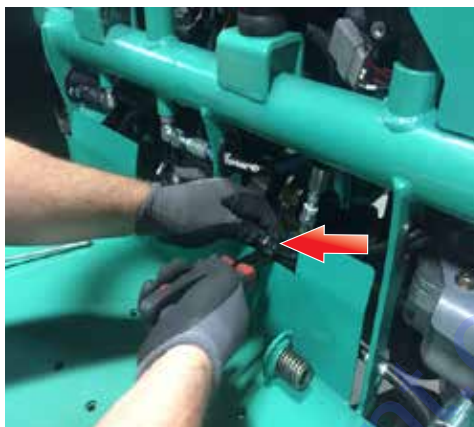

Figure 19. Cut Zip Ties
18. Cut the zip ties on the safety lock-off valve (Figure 19).